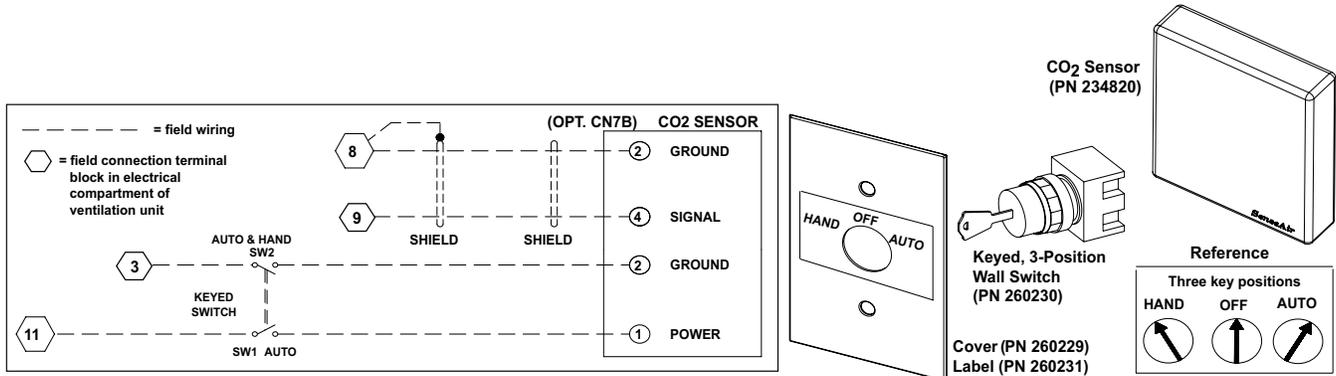

Figure 24. CO₂ Sensor (Option CN7B) Components and Wiring Connections
The CO₂ sensor (see Figure 24) with manual HAND/OFF/AUTO override switch will start or stop the unit. The infrared beam technology provides reliable and accurate sensing of the CO₂ level (±50 ppm). When in AUTO, the CO₂ sensor will activate the unit whenever carbon dioxide levels rise above the factory default value of 1000 ppm (0–2000 ppm range). The manual key switch bypasses the sensor and allows the unit to be directly commanded to HAND or OFF. Install the CO₂ sensor as follows:
- Run wires and make connections (refer to wiring diagram and Figure 24). Use shielded 2/c cable for 0–10V digital signal.